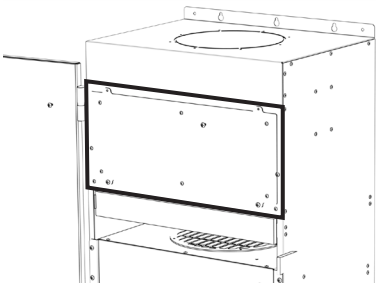

Fig. 5 Remove panel.
3. Remove the four screws securing the cover. See Fig. 5 on the following page.
- 1. The PCO filter is behind a sheet metal panel. Remove the top screws and loosen the bottom screws to remove the panel. See Fig. 5.